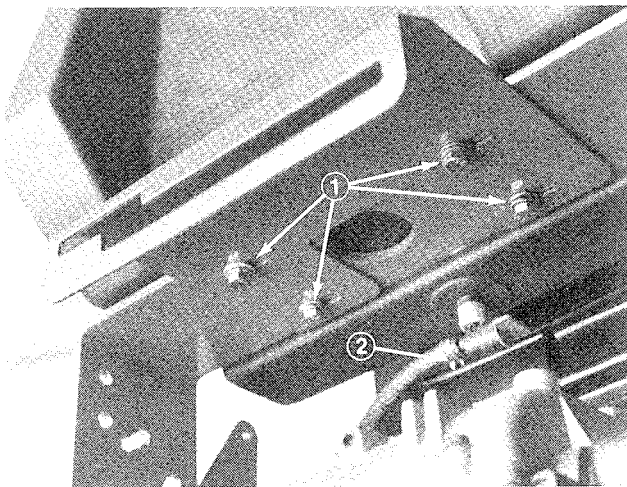

Figure 2
3. Secure fuel line to tank fitting with hose clamp (Fig. 2).
3. Move shift lever to reverse and 4th gear. Control panel mounting holes are slotted to enable it to be moved from side to side (Fig. 2). Position control panel as needed to achieve full shift range. Tighten mounting screws to a maximum of 90 in - lb. DO NOT OVER TIGHTEN.